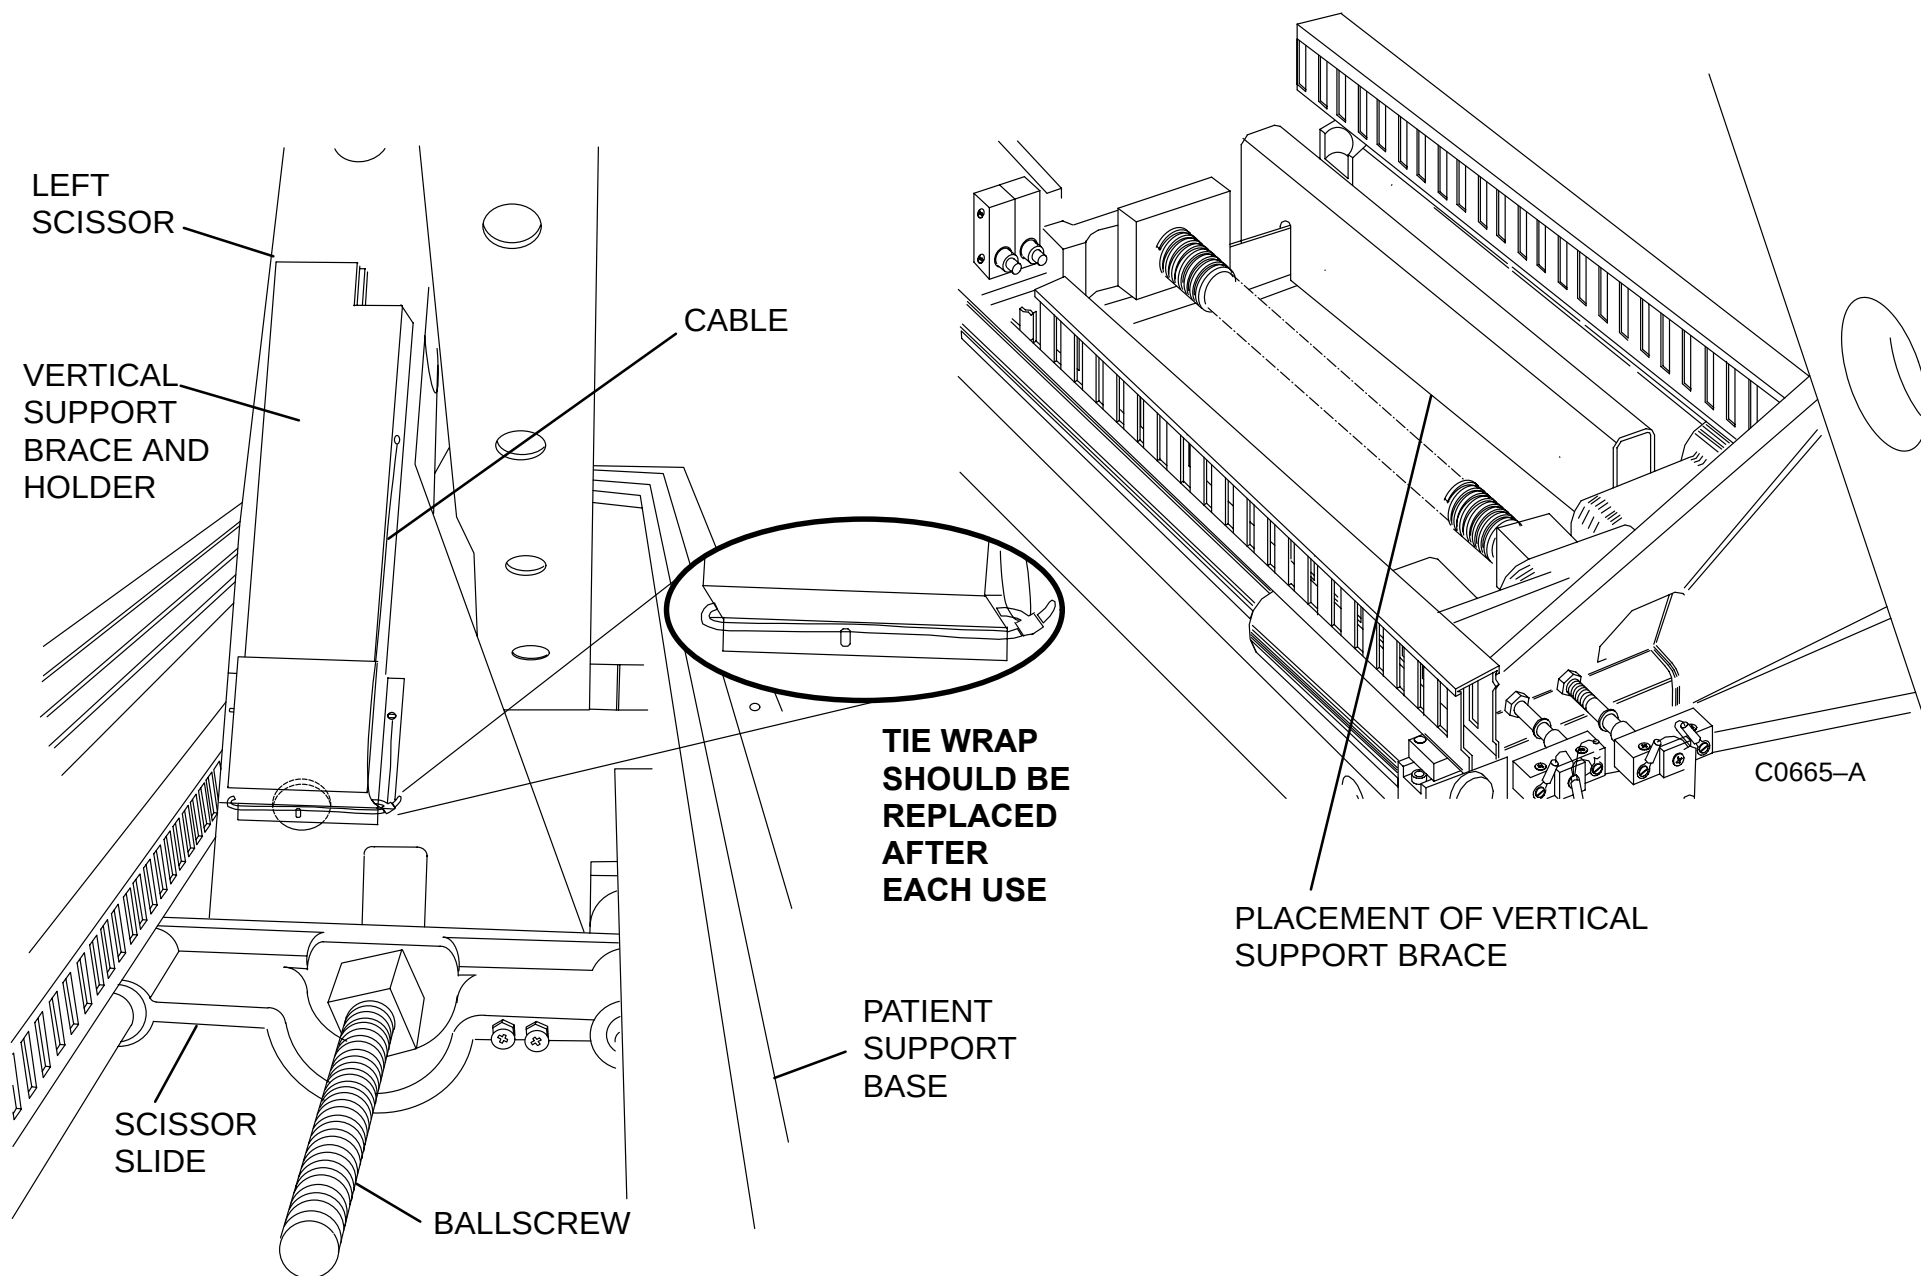

FIGURE 209 VERTICAL SUPPORT BRACE HOLDER & PLACEMENT
5. Locate the green safety vertical support brace mounted to face of scissor. Cut the tie-wrap that confines the brace cable and remove the brace from the holder. Install the brace as shown in Figure 209.
6. Lower the patient support slowly. Stop the scissor carriage just before it touches the brace. Do not drive carriage into brace as this may cause misalignment of the vertical drive mechanism. See Figure 209.
30. Remove the vertical support brace and return it to its holder on the face of the scissor. Refer to Figure 209.
31. Secure the brace cable with an 8 inch long tie-wrap fed through the bottom of the support brace holder. Refer to Figure 209.